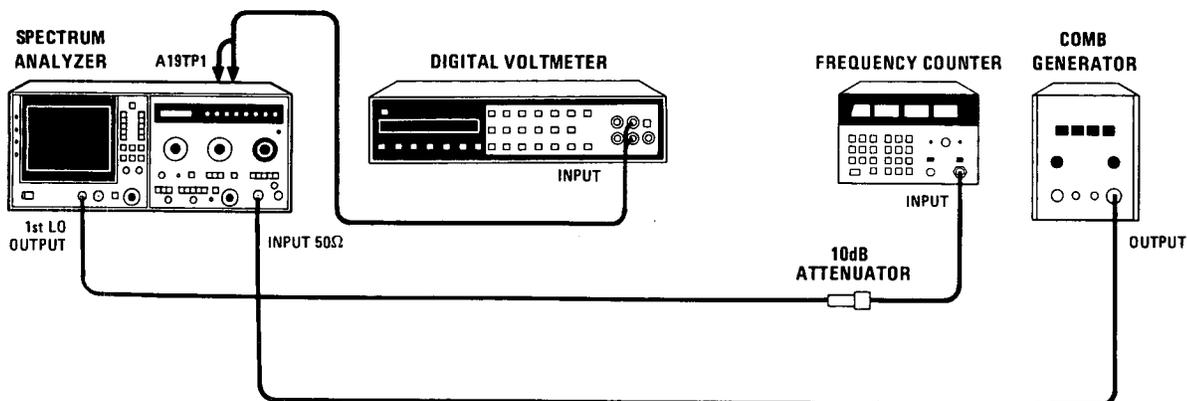

Figure 5-29. YIG Driver Adjustment Test Setup
2. Reconnect power cord, set LINE switch ON, and connect equipment as shown in Figure 5-29.